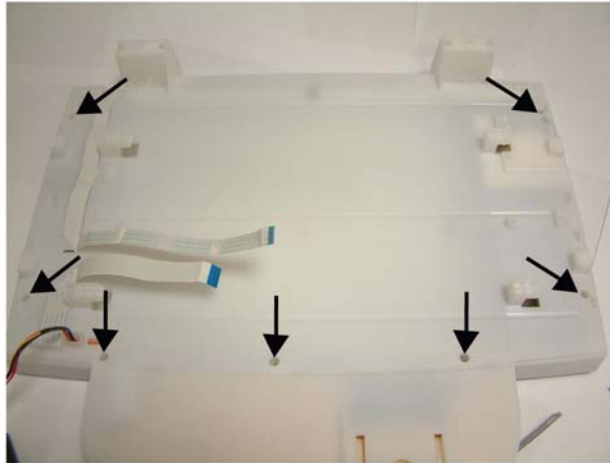

Figure 2
2. Unscrew the seven mounting screws at the back of the frame and turn it upside down, Figure 2.